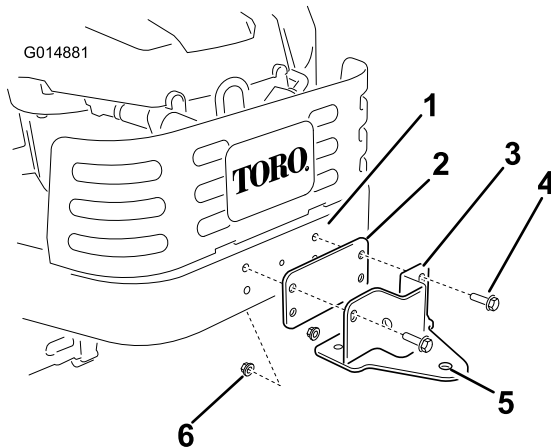

Figure 10
1. Locate the bagger frame support spacer plate and bracket in loose parts. Install the plate and bracket to the machine frame as shown in Figure 10. Secure the plate and bracket to the frame using two bolts (5/16 x 1 inch) and two lock nuts (5/16 inch).